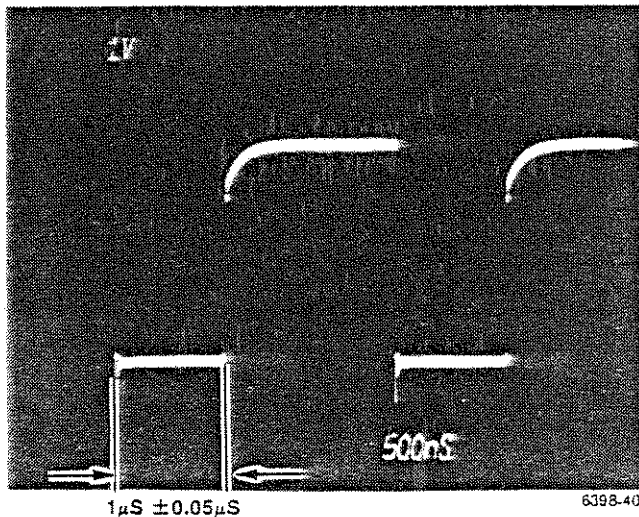

Fig. 4-13 Waveform to adjust between blanking
- Adjust R372 for a negative pulse width of 1μ s $\pm 0.05 \mu$ s (2 div ± 0.1 div) as shown in Figure 4-13